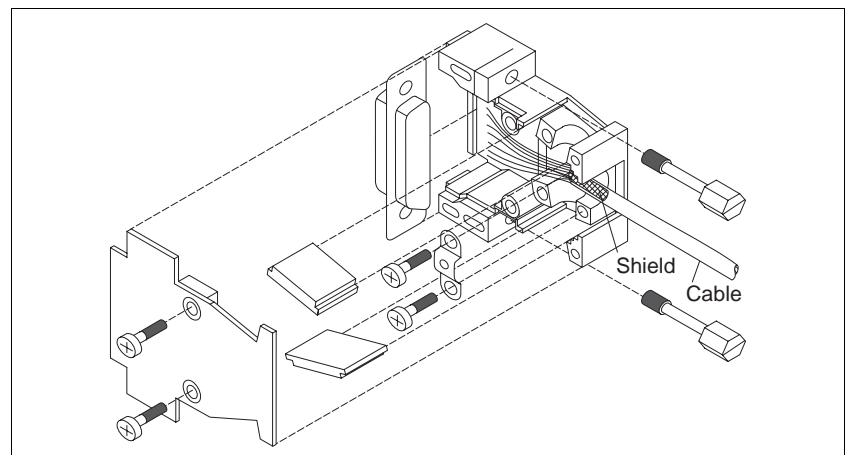

Fig. 2-17 Interface connector assembly – device end
3. Insert two hexagon head screws into the connector shell (fig. 2-17).